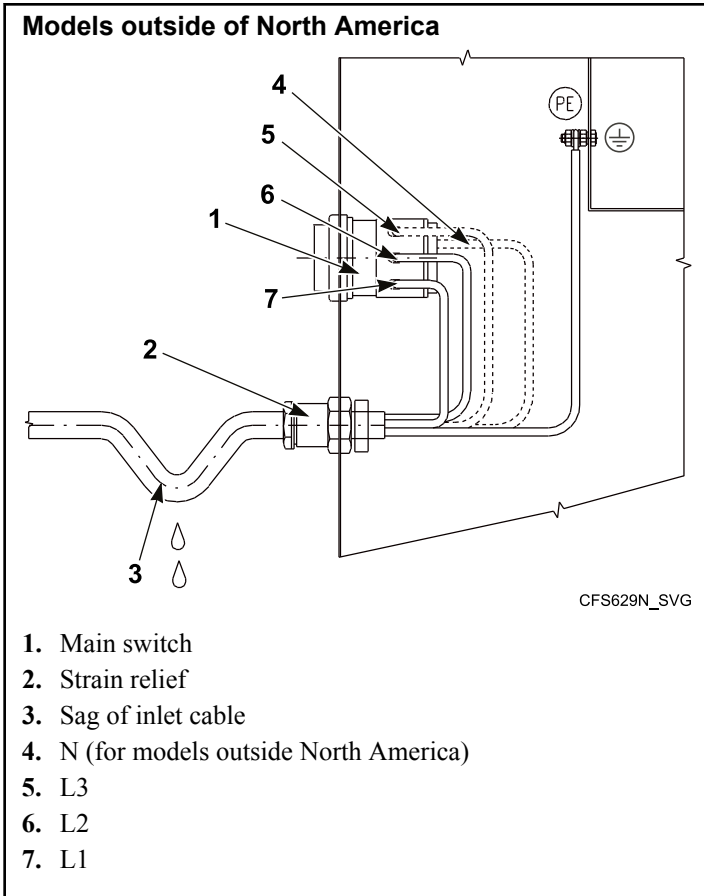
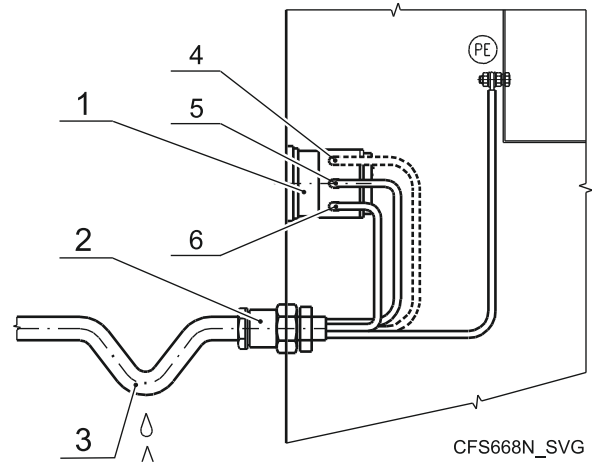

Figure 29
Figure 30
5. Connect the supply cable conductors to the incoming terminals of main switch [1]), marked with L1, L2, L3, N and the terminal marked with PE. Refer to *Figure 29*.
6. Connect the supply cable conductors to the incoming field wire terminals [1] marked with L1, L2, L3, and the terminal marked with the grounding symbol. Refer to *Figure 29*.
7. Provide a sag in the cable, in front of the strain relief. This will prevent condensed water from dripping into the machine. Refer to *Figure 29* or *Figure 30*.